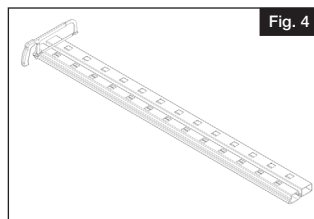

Fig. 4
- Align top rail with bottom rail and cut both rails with miter box, hacksaw or chop saw (a carbide tip blade with 60 teeth or more is recommended) (Fig 4).